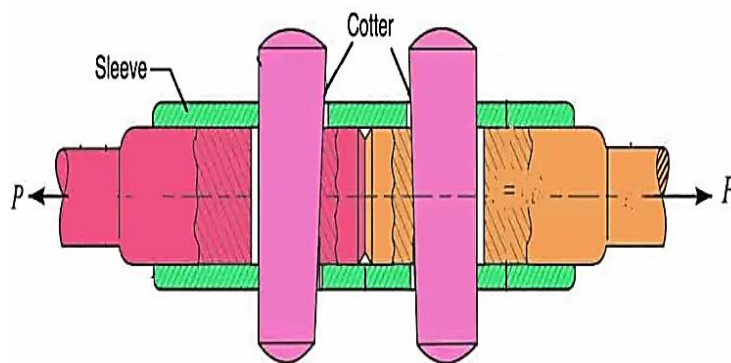

Fig. 3.31: Sleeve and Cotter Joint
2. Sleeve and Cotter Joint (Fig. 3.31)